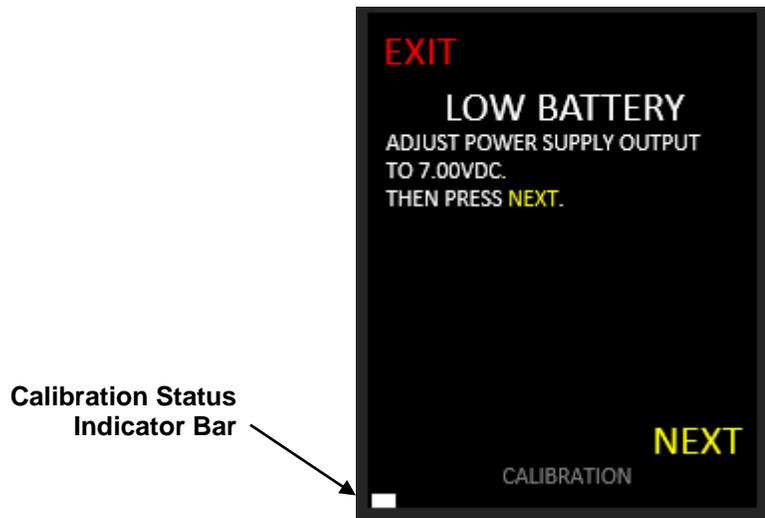

Figure 7. Set Low Battery Level
- 5.8 Per Figure 7, below, adjust the Power Supply to 7.00 ± 0.01 VDC, using a voltmeter if necessary. Select NEXT to continue. The white bar at the lower left of the screen is a calibration status indicator which becomes longer as the calibration proceeds.